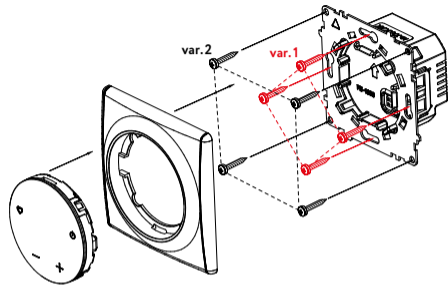

Fig. 6
2. Install the power supply unit in the wall mounting box (Fig. 6).